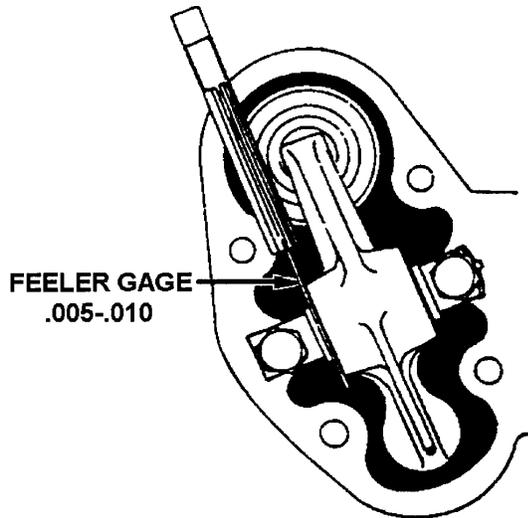

FIGURE 19-17. CHECKING ROCKER ARM SIDE CLEARANCE
6. Before installing valve actuating parts on each cylinder, turn the crankshaft until pushrods are at their lowest position. Lubricate rocker assemblies, thrust washers and rocker shafts using clean 50 weight aviation engine oil. Install rocker assemblies (19) and thrust washers (22) on rocker shafts (23). Check parts catalog for proper identification of exhaust and intake rocker arm. Install rocker and shaft assemblies on cylinder in correct positions. Install retainers (24), tab washers (25) and nuts (26). Torque nuts (26) to 110 - 120 inch pounds.
7. Check side clearance between retainers and rocker arms. See Figure 19-17, "Checking Rocker Arm Side Clearance."